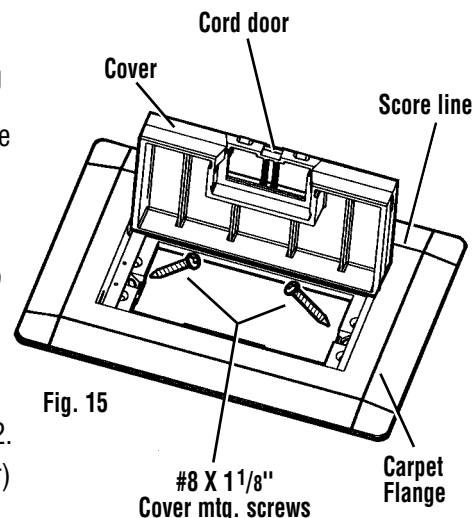

Fig. 15
5. To attach Cover to Floor Box, insert #8 x 11/8" pan head screws (provided with Cover) into angled holes at the ends of Cover and tighten into Floor Box ends. (Fig. 15)